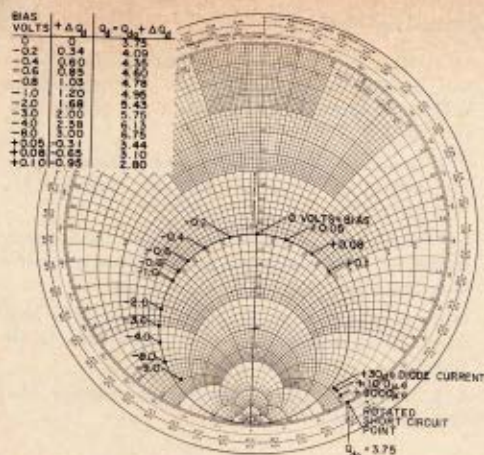

Figure 5—Rotated data plot.
5. The section of the circle plot around the center of the Smith chart is then graphically rotated so that it coincides with the  $R/R_0 = 1$  circle as shown in Figure 5. The short circuit point is similarly rotated through the same angle. (Note that the normalized impedance points taken to establish the short circuit point fall on a constant reactance line in this plot.)
A table illustrating results is given in Figure 5. For data points that do not fall on the  $R/R_0 = 1$  circle because  $R_d$  begins to vary, the  $Q_d$  may also be found. An example of such a point is the -9 volt bias point in Figures 4 and 5. To obtain  $Q_d$  for this point, first divide the  $Q_{d0}$  by the normalized resistance corresponding to this point as plotted in the rotated data plot. Then,